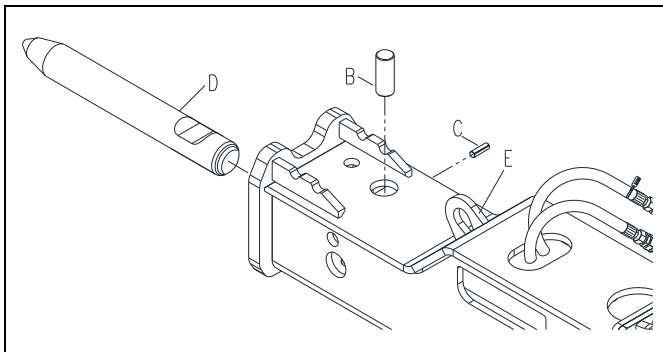

Fig. 10-3 Remove smaller pin (C). Next, remove large pin. (B)
3. Drive small retainer (C) out of front head until it clears large retainer (B). [Fig. 10-3].
4. Remove large retainer and set aside. [Fig. 10-3]
4. Insert the large retainer (B). [Fig. 10-3].
5. Insert small pin (C) through slot in large retainer (B) until fully engaged. [Fig. 10-3].